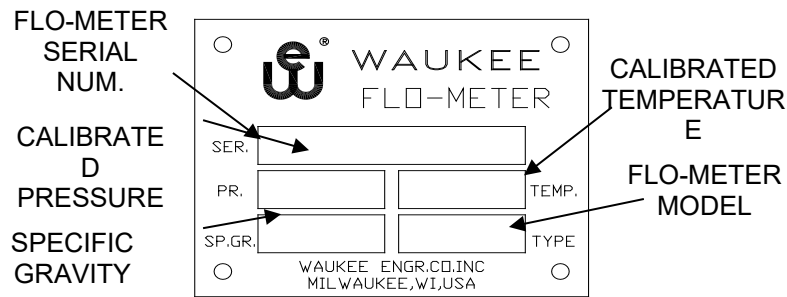

Figure 8
1. Are the Pressure, Temperature and Specific Gravity (Gas Type) being used the same as what the Flo-Meter is calibrated for? This information can be found on the Serial Plate located on the front of the Flo-Meter. (See Figure 8) Pressure is very critical to the accuracy of the Flo-Meter, for every 1psi (6.9kPa) from calibrated pressure will result in about a 3% inaccuracy in reading. The temperature will also have a slight effect on the accuracy of the Flo-Meter, for every 10° of deviation from the calibrated temperature will result in about a 1% inaccuracy. Using a different gas type then what the Flo-Meter was calibrated for may result in huge inaccuracies, depending on what the Flo-Meter is calibrated for and what gas type is currently flowing through the Flo-Meter. If any of these values deviate from what the Flo-Meter is calibrated for, you can use a correction factor to find out the actual flow rate for a given indicated flow rate. Use the Correction factor formula located in this manual.